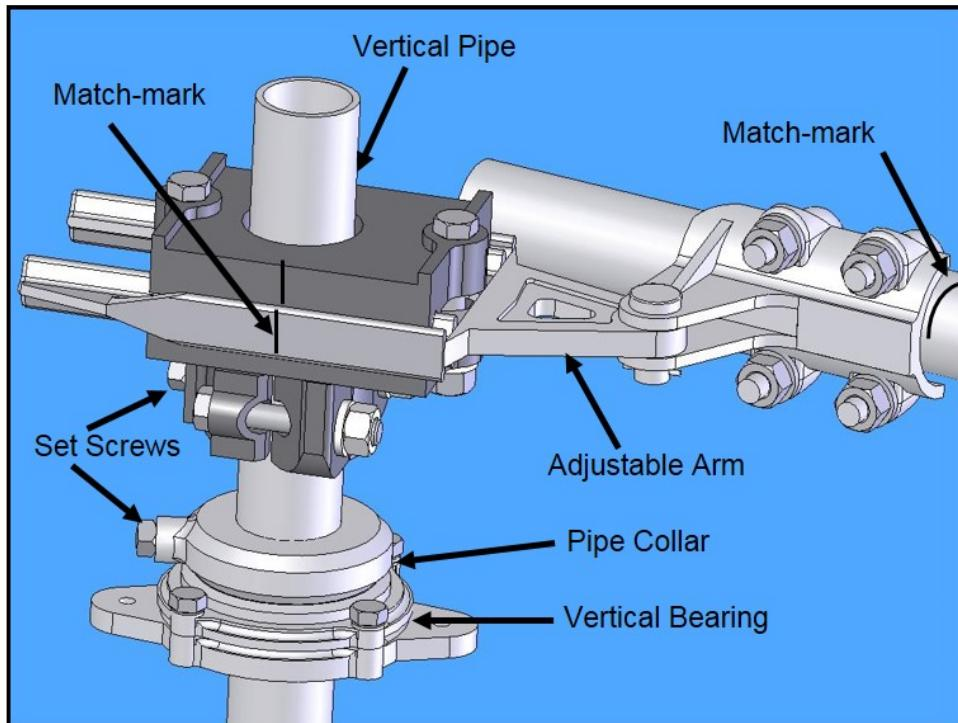
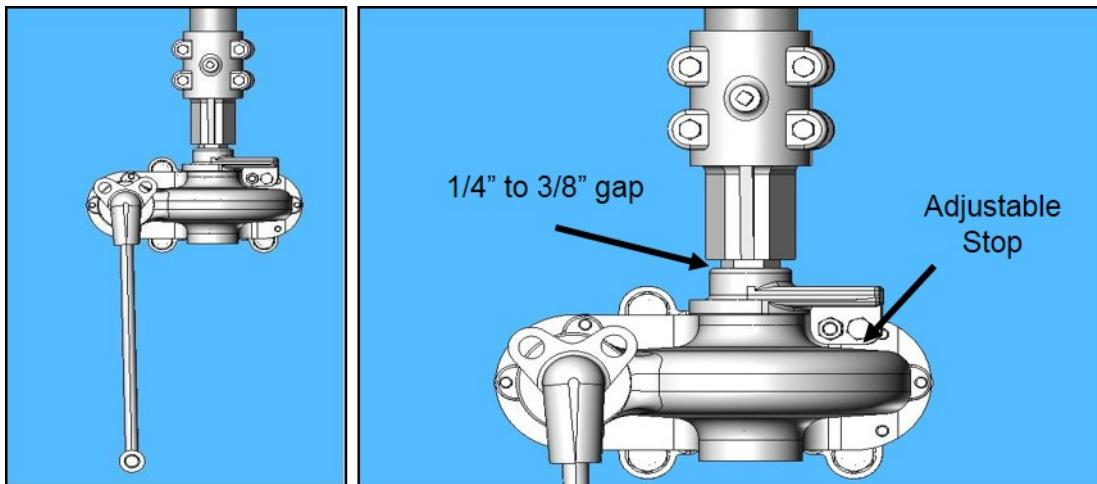

Figure 18: Typical Operating Arrangement
Figure 19: Type HOGO (High Output Geared Operator) Front View
3. Refer to the Operating Mechanism drawing, and install all mounting brackets, bearings, bushings, pipe clevises, switch operating device, adjustable arm, reach rod, and other necessary components. Refer to **Figure 18**.
5. After mounting all op-mech components, match-mark all clevis connections, the adjustable arm, and the switch operating devices' coupling, so that any slippage occurring during trial operations can be readily detected. Refer to **Figure 18**.
- 2.1.2. The weight of the vertical operating pipe should be supported by pipe collar (**Figure 18**) by maintaining the 1/4 - 3/8" gap (**Figure 19**).
- 2.1.3. When the switch is properly adjusted the operator handle should hang freely in both the open and closed positions to permit the use of a customer supplied padlock. Refer to **Figure 19**.
4.3. If the switch **does not** fully open before the operator reaches the fully open position, the adjustable arm radius is too short. Close the switch, match-mark the adjustable arm and the pipe clevis, and loosen the bolts on the adjustable arm and pipe clevis. **Lengthen the adjustable radius arm approximately 1/4". Allow the pipe clevis to reposition itself the same 1/4".** Refer to Figure 18. Test operation and readjust as necessary.
4.4. If the switch is fully open before the operator reaches the fully open position, the adjustable arm radius is too long. Close the switch, match-mark the adjustable arm and the pipe clevis, and loosen the bolts on the adjustable arm and pipe clevis. **Shorten the adjustable radius arm approximately 1/4". Allow the pipe clevis to reposition itself the same 1/4".** Refer to Figure 18. Test operation and readjust as necessary.